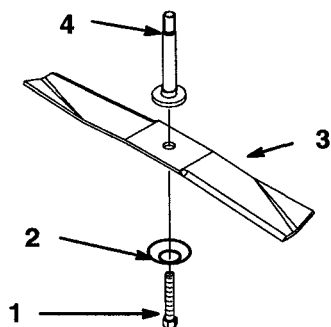

Figure 28
1. Install the blade, belleville washer, and the blade bolt (Fig. 28).